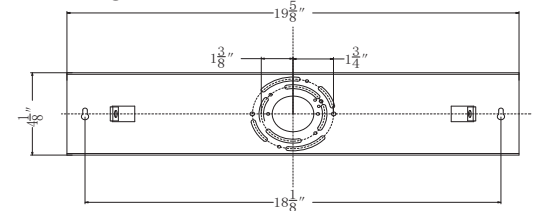
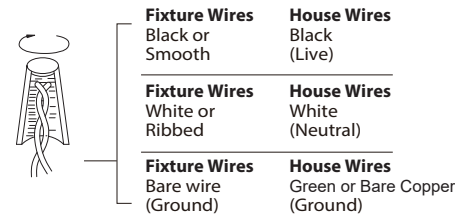

Fig. 2 Wiring
Fig. 3
### ASSEMBLING AND WIRING FIXTURE (Fig. 1, Fig. 2, Fig. 3)
7. Connect the canopy, rods, swivel and fixture body. Ensure all connections are tightened. **Note:** Due to limited space within the canopy, shorten the wiring as necessary to make the installation easier. Make sure to identify and label all the wiring properly (Fig. 3) before shortening wires.
8. Remove the short allen screw (E), pull out the extra safety cord through clamp, leave a loop for hooking, then secure the safety cords with clamp by tightening the short allen screw (E), hook the hooks into the safety cords. Hook the hooks on the mounting back plate slot.
9. All wires are connected as Fig. 2/Fig. 3 by using wire connectors (A) provided. Ensure all wire connectors are secure. Connect the fixture's ground wire to the ground in the junction box; this will be either a green wire or a bare copper wire. After driver is wired to house wires, tuck wires carefully inside the junction box.
### NOTE: DIMMING WIRING INFORMATION (Fig. 3)